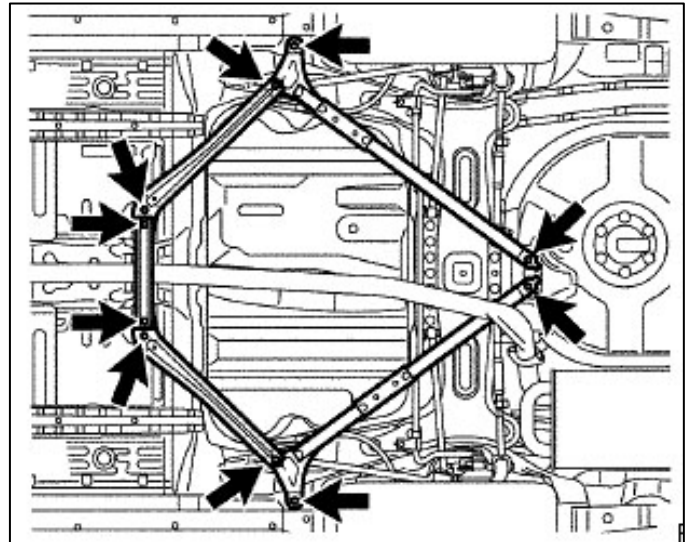

Figure 5
2. **Convertible only:** Remove the 2 bolts and the floor panel brace rear (Figure 5 and refer to Figure 3). Remove the 4 bolts and the member brace rear lower LH and RH. Remove the 4 bolts and the center floor panel reinforcement sub-assembly LH and RH.